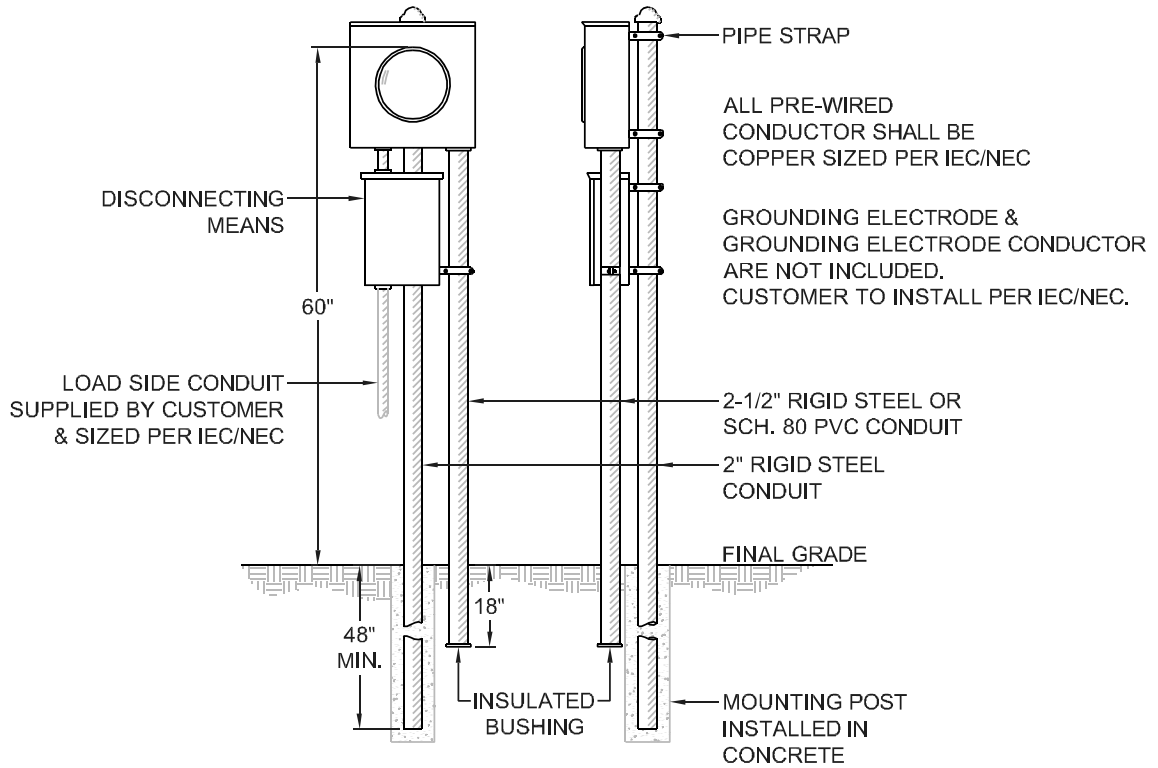
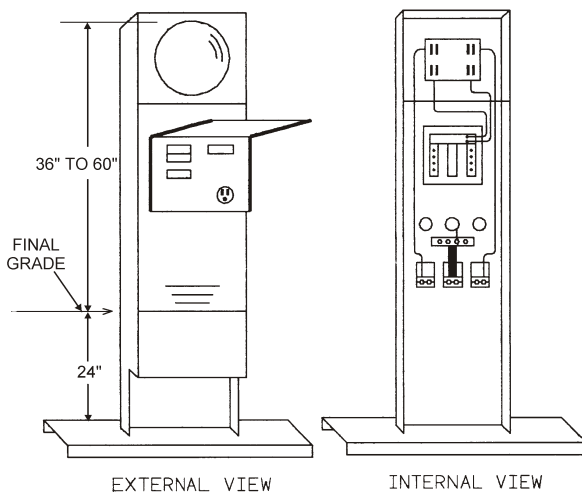
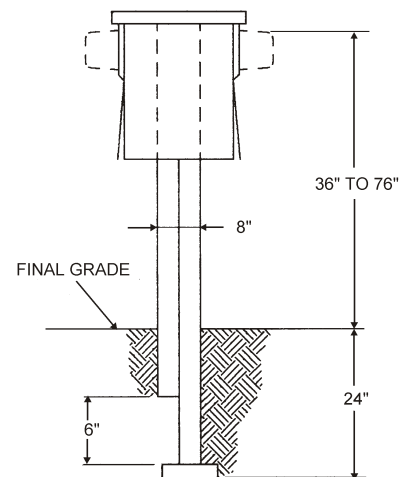

Figure 1:
Figure 2:
Figure 3:
LATEST REVISION: Noted that post mounted pedestals shall be installed in concrete and Myers Electric Products is now Myers Power Products in Specification 3. Updated Figure 1 and general revisions.
- 1.1 The pedestal shall be level and securely mounted on a concrete pad or to a post type mounting structure satisfactory to the Company. Mounting post, on post mounted pedestals, shall have a minimum of 4 feet underground (See Figure 1) and shall be installed in concrete. Where a portion of the pedestal channel is used as the mounting post, the channel shall have a stabilizer at the bottom and be buried a minimum of 2 feet below final grade level (See Figure 2 and Figure 3).